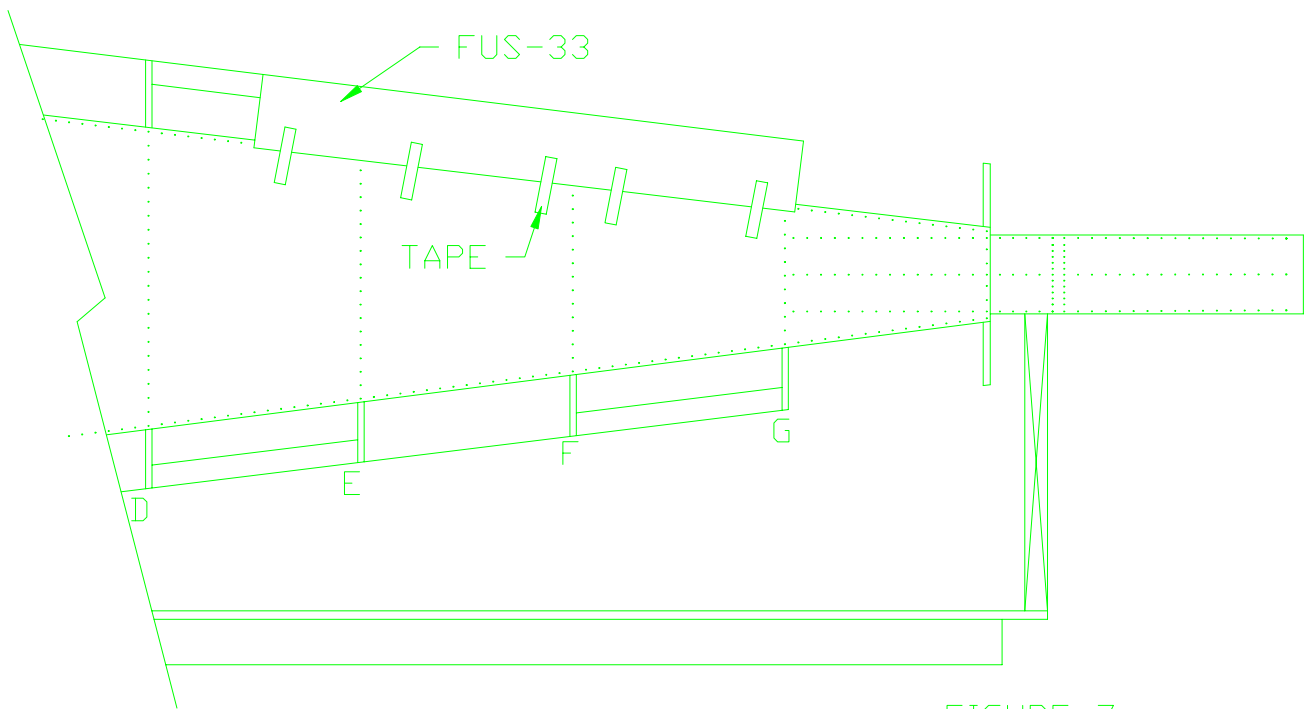

FIGURE 7
26) Starting at bulkhead "G" tape one corner wrap to the cone side skin so the line drawn in step 24 is visible through the prepunched holes in the cone side skin. Ensure the corner wrap sticks out past bulkhead "G" enough to be trimmed later. Figure 7